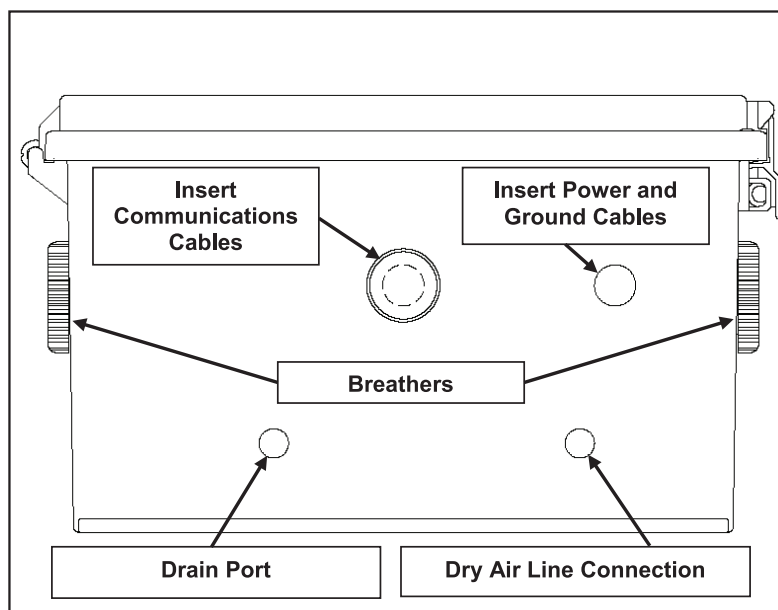

FIGURE 4. Base of NEMA enclosure.
3. At this time, make the drain port connection. For this step, there are two options, as desired, depending on the installation location and function. Refer to Figure 4. Either carefully connect the bronze muffler to the fitting on the drain port (to serve as a moisture diffuser), or connect an 1/8" NPT male end barbed hose fitting to the drain port fitting, attach a hose, then route the hose to a facility drain.
- Two breathers are located on the enclosure, one on either side, as shown back in Figure 4 in this appendix. They allow air into the enclosure. Do not remove the breather caps. They are specially designed to let air into the enclosure, while preventing water and dust entry. Turn the breather caps clockwise at this time just to make sure they are properly seated.